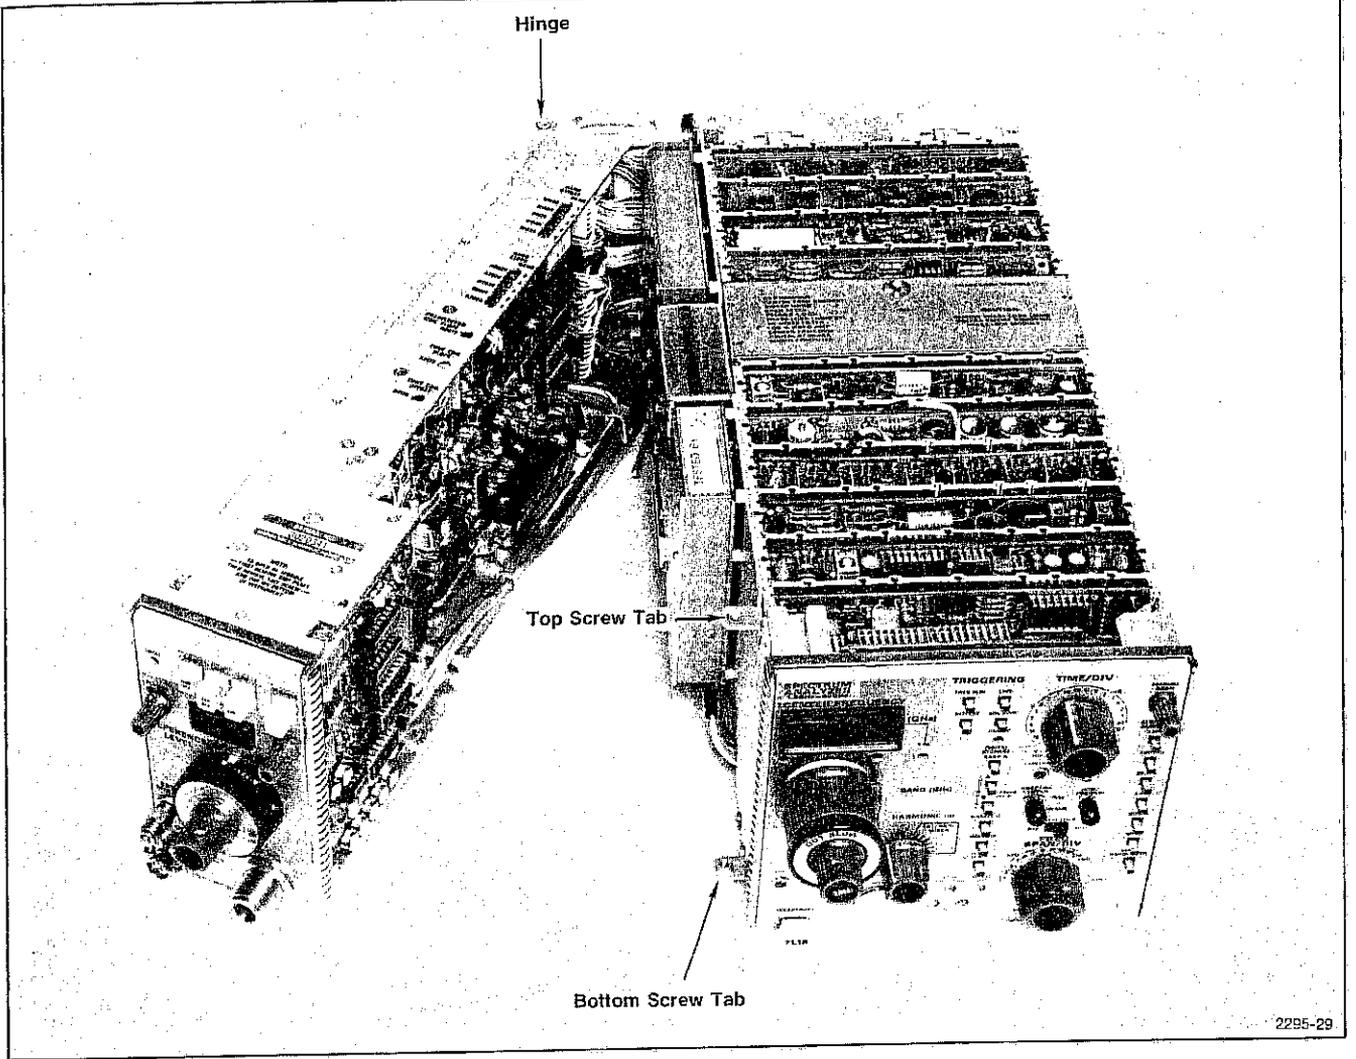

Fig. 4-21. 7L18 Showing How Two Sections are Hinged Together and Separated for Servicing.
c. The two sections can now be moved apart to expose the inner sides. The sections are mechanically and electrically connected by a hinge and cables at the rear of the instrument (see Fig. 4-21).